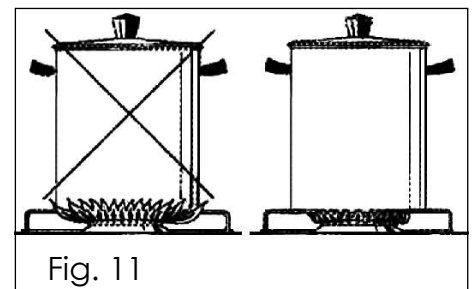

Fig. 11
- Use suitable pans for each burner (see tab. № 2 and fig. 11).